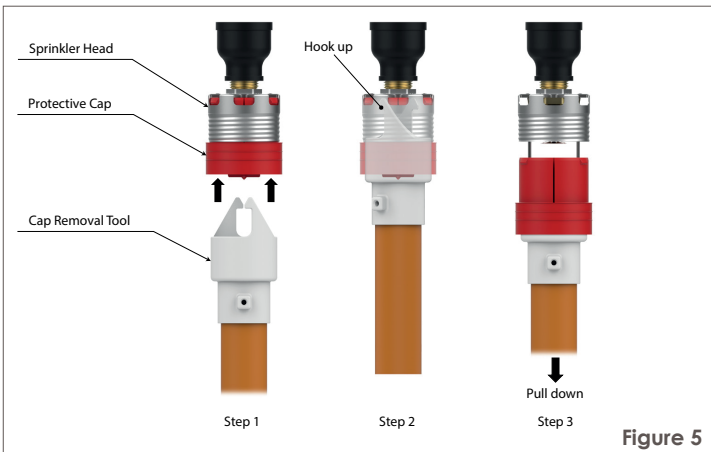
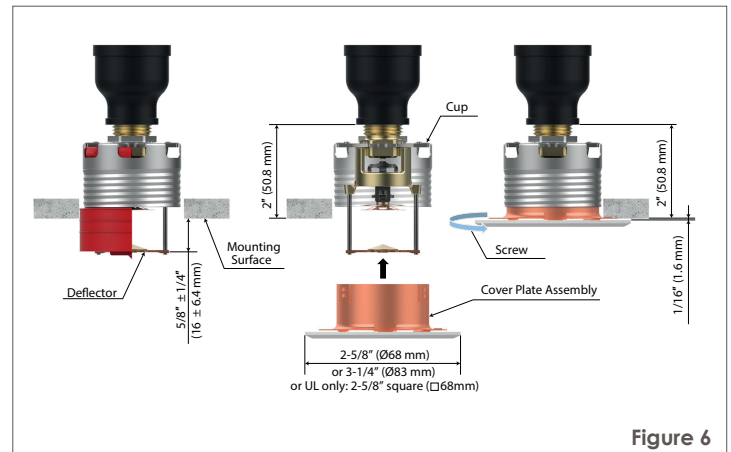
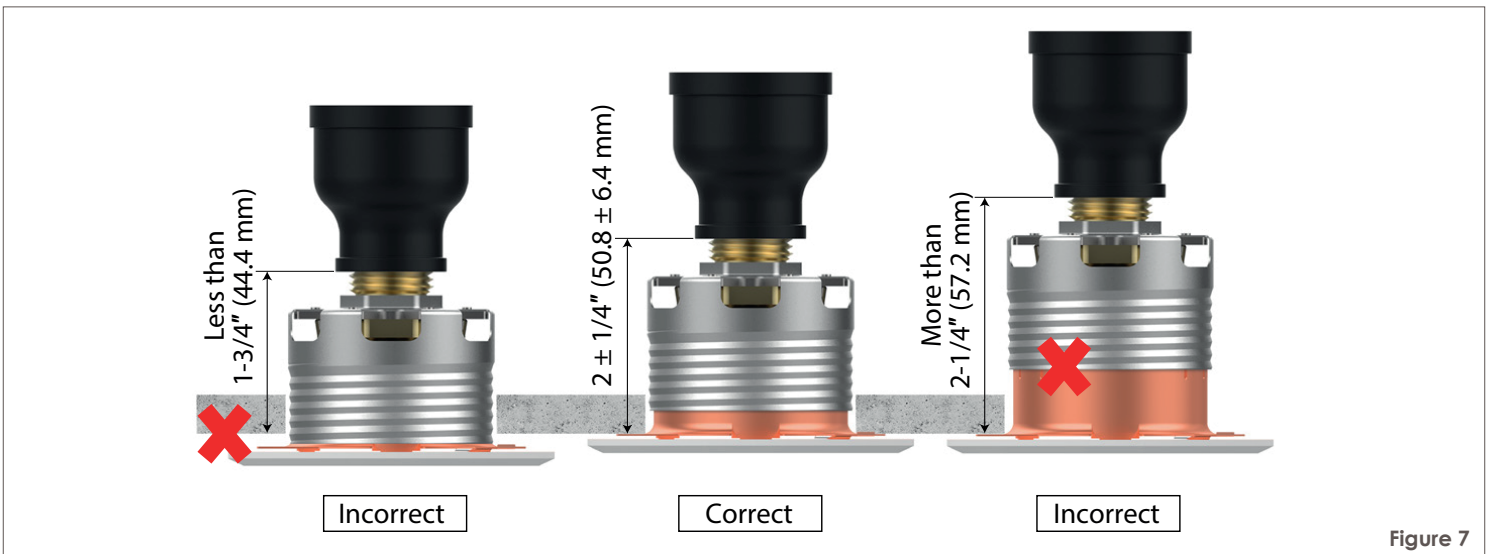

Figure 5
Figure 6
Figure 7
Use the Cap Removal Tool to remove the Protective Cap (Ref. Figure 5), and then push or screw a Cover Plate Assembly on the Cup of the Sprinkler by hand until its flange just has contact with the ceiling (Ref. Figure 6 and Figure 7). Stop tightening the Cover Plate Assembly once the flange has contact with the ceiling. If the ceiling has been lifted from its normal position in the process of tightening the Cover Plate Assembly, readjust the cover plate assembly as necessary. If the flange of the Cover Plate Assembly cannot contact the ceiling sufficiently, readjust the sprinkler fitting as necessary. When properly installed, there is a nominal 1.6mm (1/16 inch) air gap between the lip of the Cover Plate and the ceiling, as shown in Figure 6.
- Install the cover plate assembly properly, as shown in Figure 6. Improper installation of the cover plate assembly may cause improper operation or non-operation.